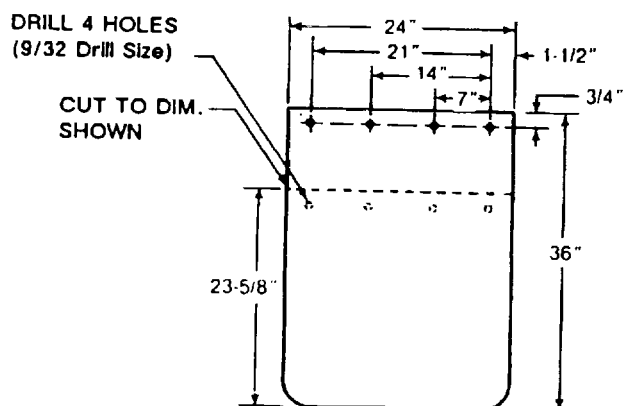

Figure 4-64. Mudflap Modification
4-57. Brackets, Splash plates, and Mudflaps, Fig. 4-64.*a. Removal.*
(1) Position front splash plate and fasten to frame with three bolts and nuts.
(2) New mudflaps are stocked in one size only. Cut and drill the mudflaps using the dimensions shown in figure 4-64.
(3) Put mudflaps in position, place bracket on top side of mudflaps, and fasten to rear bumper with four capscrews, washers, and nuts.